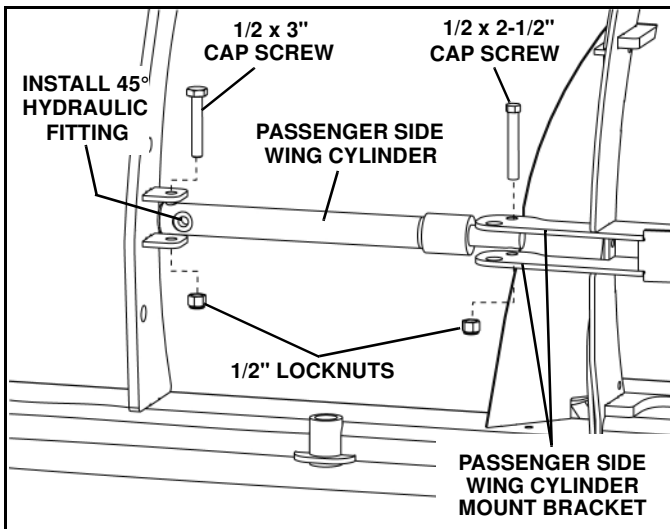

Figure 1-10
2. Position the base of one wing cylinder, with the hydraulic port facing the rear, on the passenger side of the blade. Install a 1/2" x 3" hex head cap screw and secure with a 1/2" locknut. (See Figure 1-10)
4. Install a 45 deg. hydraulic fitting into the cylinder port, point down and tighten securely. (See Figure 1-10).